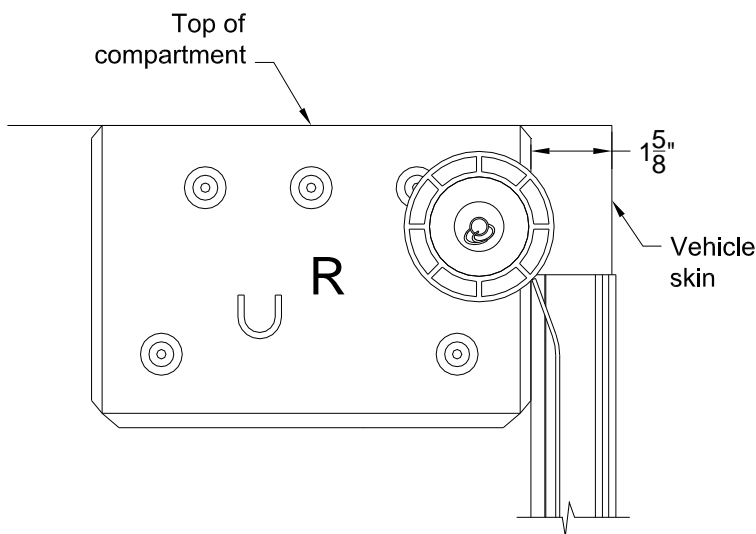

Fig. 1
- a) Looking into the compartment, place the pennant plate right hand pennant plate label in the top right of the compartment as shown in Fig. 1. Make sure it is flush with the top of the compartment and 1-5/8" from the vehicle skin. Reference instruction #12 if optional drip pan is ordered.
- a) Mount drip rail pennant plates as shown per instruction #4. First, determine what size pennant plate you have by referencing the label on the back of the plate. If the pennant plate is an A, B, or C; place the drip pan pennant plate flush up against the existing pennant plate as shown in Fig. 1. Making sure the hanger stud is placed on the same side of the U-Bracket as shown. For D size pennant plates the top of the drip pan plates will need to be mounted 3" below the pennant plate.